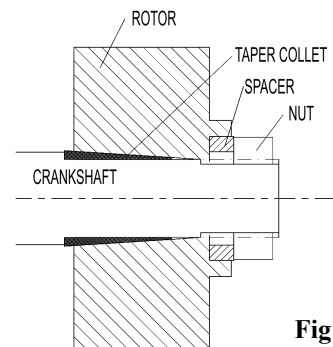

Fig 3
- Step 4** **Fitting the rotor:** The rotor is tightly held on the crankshaft by the tapered collet system. First fit the collet on the crankshaft pushing it to stop against the step in the crankshaft, then locate the rotor, spacer and locking unit. See fig 3. Don't fully tighten the rotor yet, allowing it to rotate freely on the crankshaft.